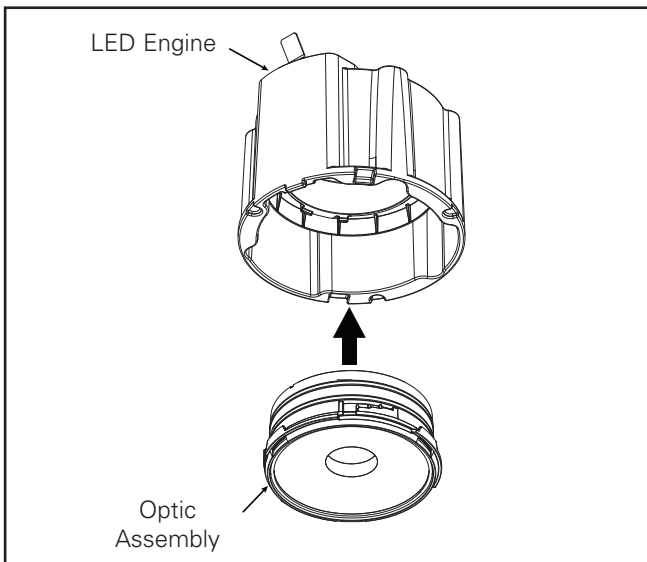

Figure 14
3. Insert optic assembly into LED engine holder and align it with opening slots on the LED engine's holder. (Figure 14)